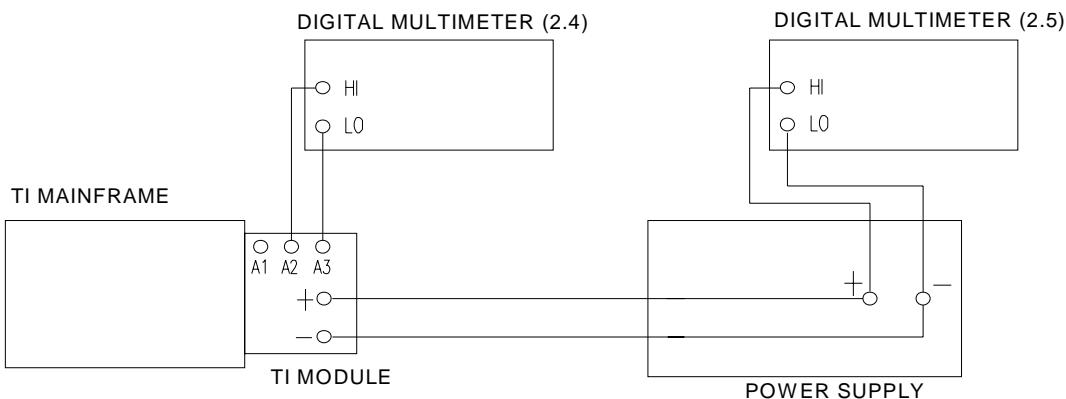
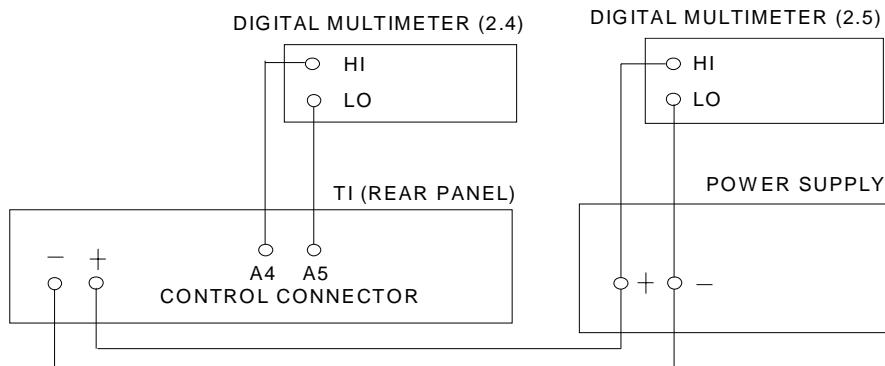

Figure 1.
Figure 2.
- 4.1.1 Connect equipment as shown in Figure 1, except connect Model 6060B as shown in Figure 2. Use Power Supply (2.7) for Modules 60503B and 60507B, and Power Supply (2.6) for all others.